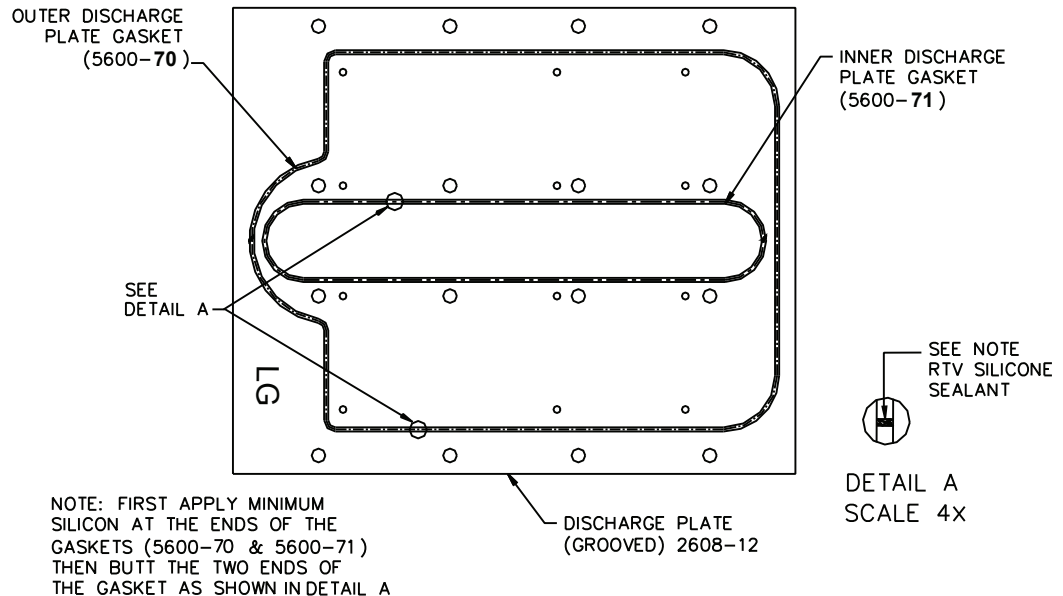

Figure 3. Generator Casting
- Install the gaskets in the discharge plate grooves as shown in Figure 3.